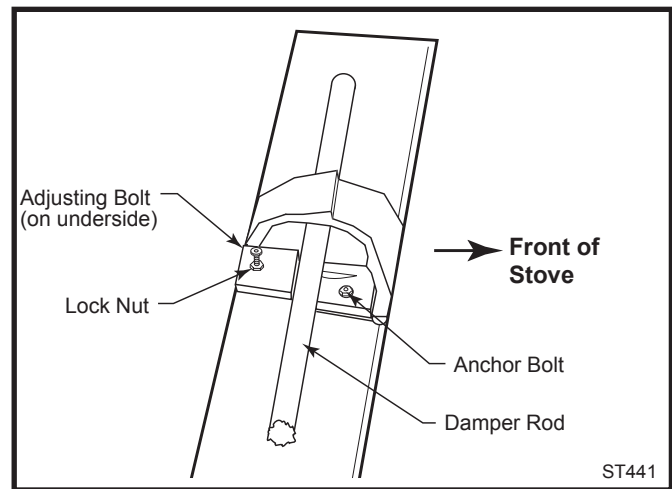

Fig. 33 Damper adjustment.
1. From inside the stove, first loosen and then remove the two (2) nuts on the threaded rods that secure the top plate to the inner top of the stove.
3. Loosen the adjusting bolt's lock nut. (Fig. 33)